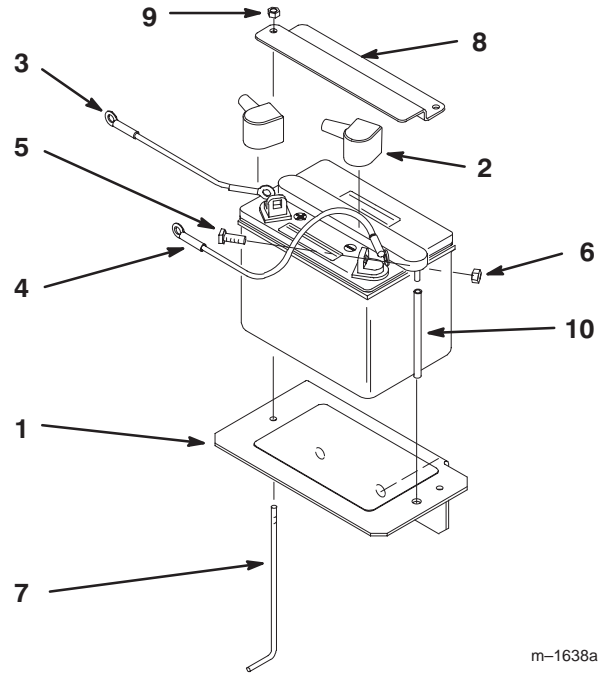

Figure 8
3. Position battery onto holder with terminal posts away from the engine (Fig. 8).
5. Install the positive (red) battery cable to positive (+) battery terminal and the negative battery cable to the negative (-) battery terminal. Secure cables with (2) 1/4 x 3/4" (19 mm) carriage bolts and 1/4" nuts.
6. Mount battery to holder with (2) support rods, a battery clamp and (2) 1/4" locknuts. Position support rods in mounting holes (Fig. 8). Tighten locknuts so battery is held securely in position and will not slide. **Do not overtighten.**